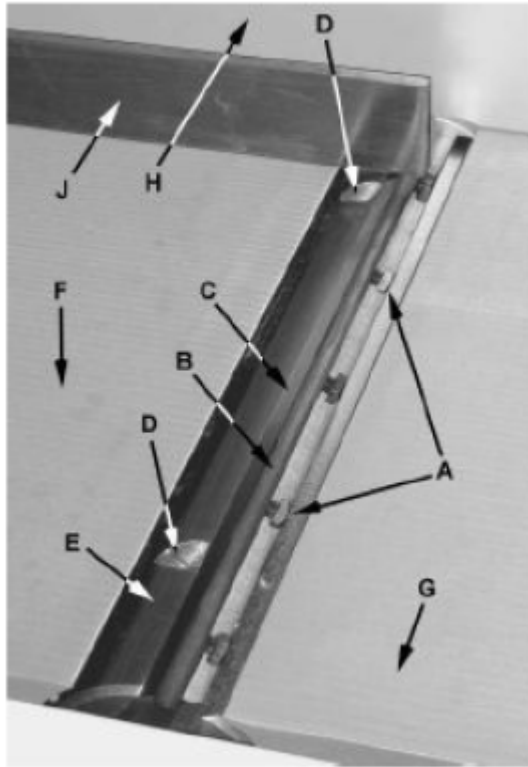

Figure 21
2. Remove the cutterhead guard (B). Referring to Figures 21 and 22.
3. Carefully number each knife blade (C) with a magic marker to differentiate each.